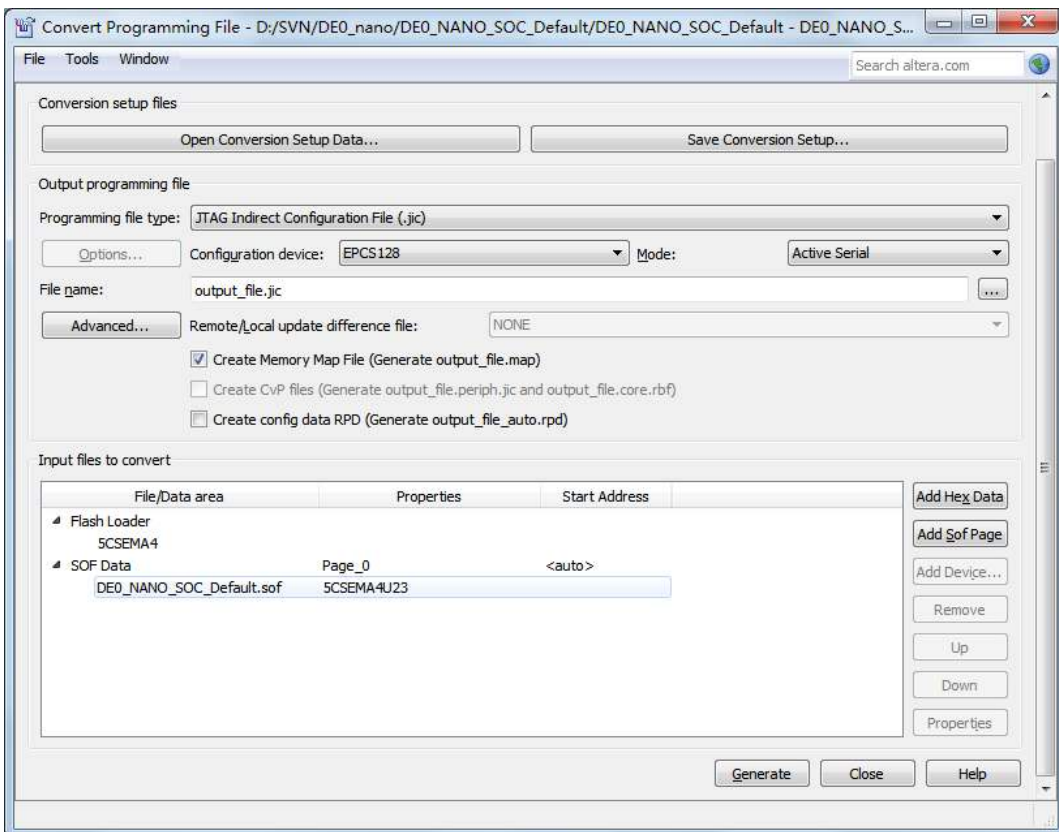

Figure 7-6 “Convert Programming Files” page after selecting the device
13. Click **OK** and the **Convert Programming Files** page will appear, as shown in Figure 7-6.